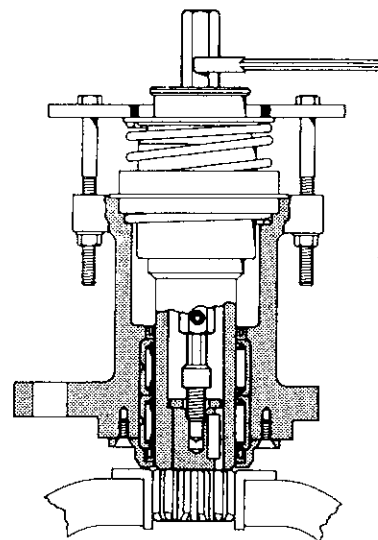

Figure 4.4
4. Remove the nine drive housing adapter screws (37) and lockwashers (36).
5. Remove the drive housing adapter (35), facet drive assembly (31) and facet pinion unit, making sure that the drive housing bushing remains in place.
6. Clamp the starter pinion (45) in a vise equipped with copper-lined jaws. Attach facet drive clamping Tool No. 22776 and remove pinion screw (29) from the drive unit using Tool No. 20795. See Figure 4.4.